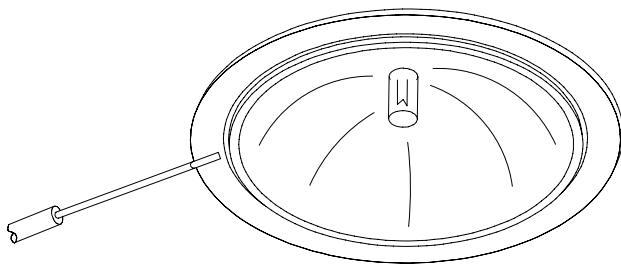

fig. 5
Open the stainless steel panels and remove the grease filters in order to avoid damaging them in any way and too allow installation; screw the threaded bars provided into the plugs as shown in fig.5.
**Do not remove** the entire fixture (socket) as this is very difficult to reinstall. Gently pry the bulb from the fixture using a soft instrument such as a toothpick. Steel instruments will scratch the surface (refer to figure 5).